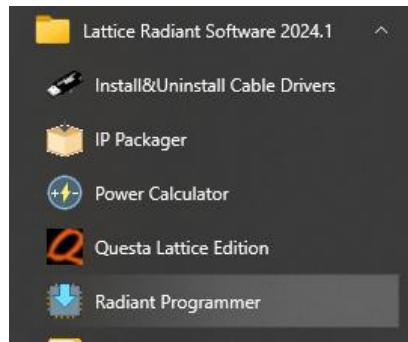

Figure 8.58. Launch Radian Programmer from Windows Start
1. Launch the Lattice Programmer from Lattice Radiant as shown in Figure 8.58.